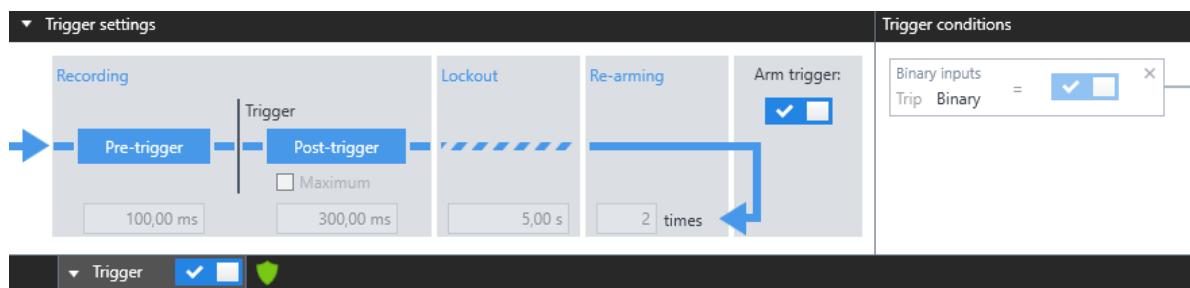

Figure 5: Trigger setting and arming for trip signal.
4. Setting up and arming a trigger, as exemplarily shown in Figure 5, enables the automated recording.